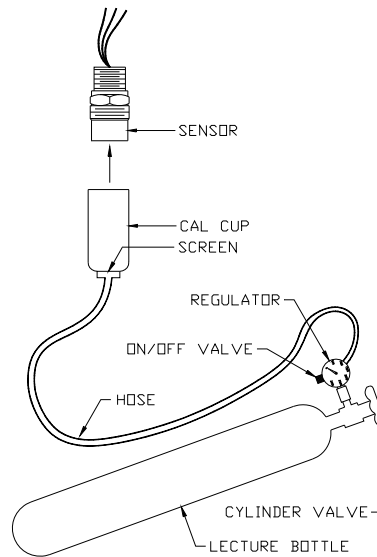

Figure 19: Portable Purge Calibrator
- Place the cup from the portable purge calibrator over the sensor (Figure 19).